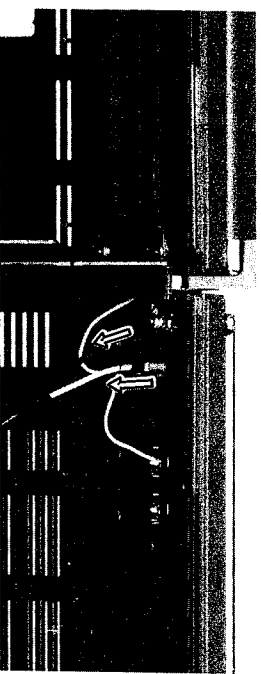

Figure 5-3
3. Open the back cabinet, and withdraw two antenna lead tips (white, black) from the cabinet inside. See Fig. 5-3.